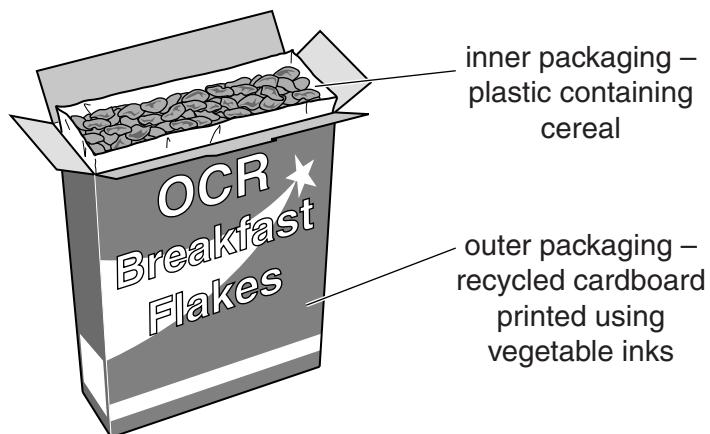

Fig. 1
- 16 Fig. 1 shows cereal packaging.